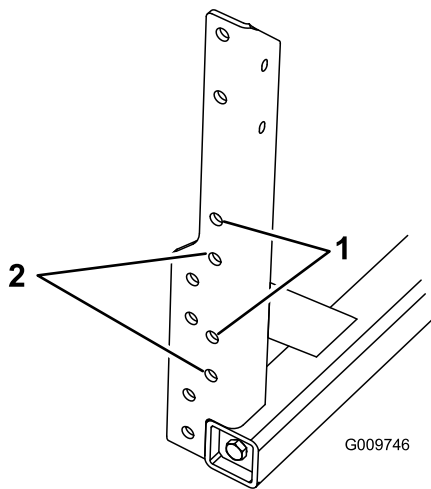

Figure 13
2. Refer to Figure 13 to locate the appropriate mounting holes for installing the center boom on your machine.